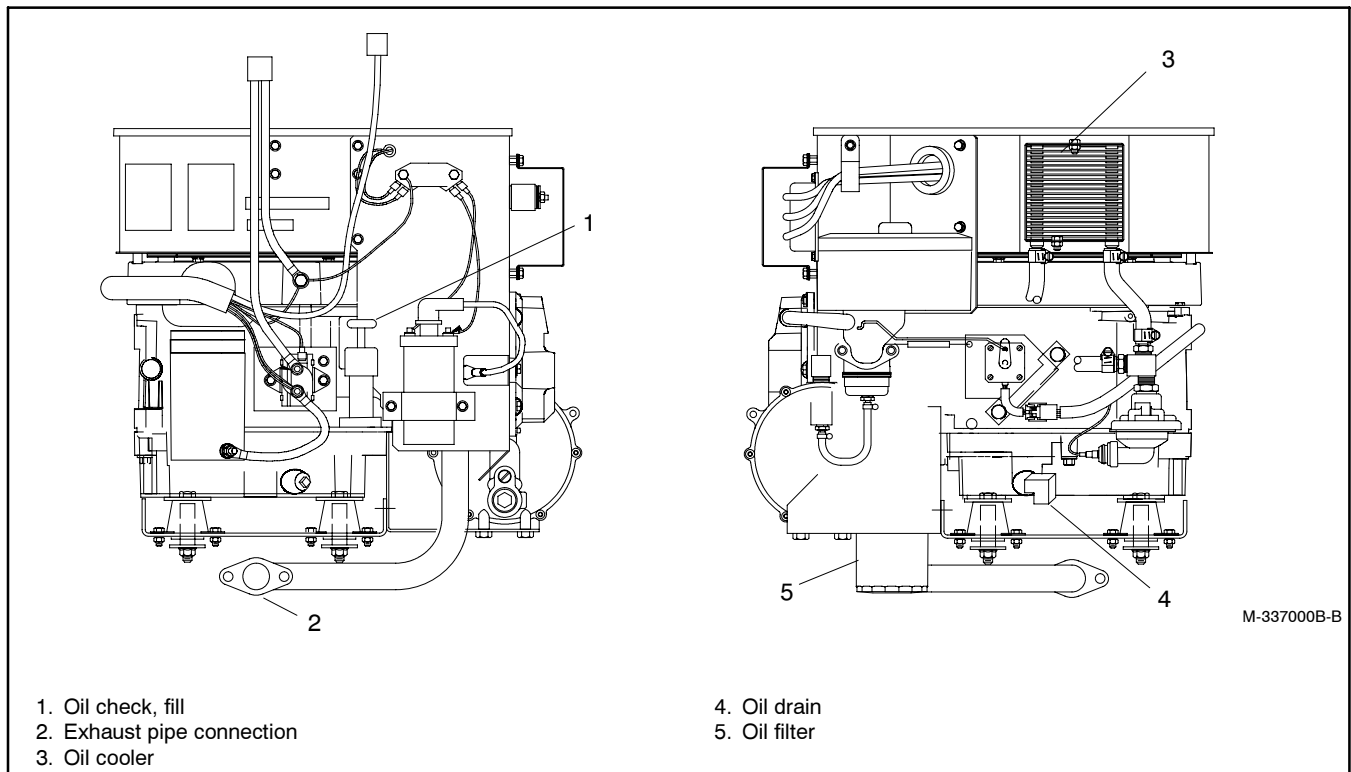
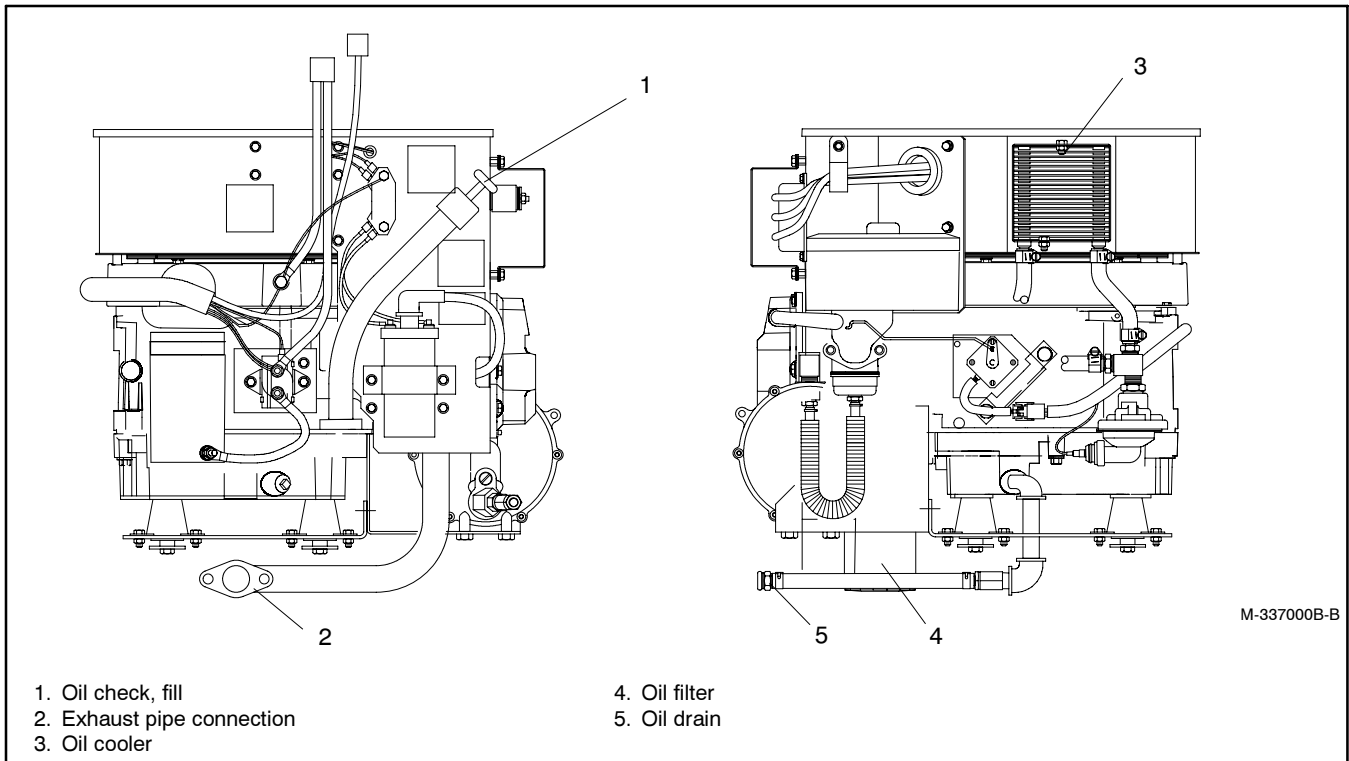

Figure 3-4 Lubrication System, Specification Numbers PA-195023 and PA-195027
Figure 3-5 Lubrication System, Specification Numbers GM14140-GA1 and above
See the service schedule in Section 3.2 for oil change and oil filter replacement intervals. See Figure 3-4 and Figure 3-5 for the oil drain, oil check, oil fill, and oil filter locations. The list of routine service parts in the Introduction of this manual shows the oil filter part number.
The generator set is shipped with oil. Before operating a new generator set check the engine oil in the crankcase. See Figure 3-4 and Figure 3-5. Verify that the oil level is at the F mark on the dipstick. See Section 3.4.2 for engine oil recommendations.
1. Follow the instructions in Section 3.3 to access the generator set oil drain plug, filter, and fill tube. See Figure 3-4 and Figure 3-5.